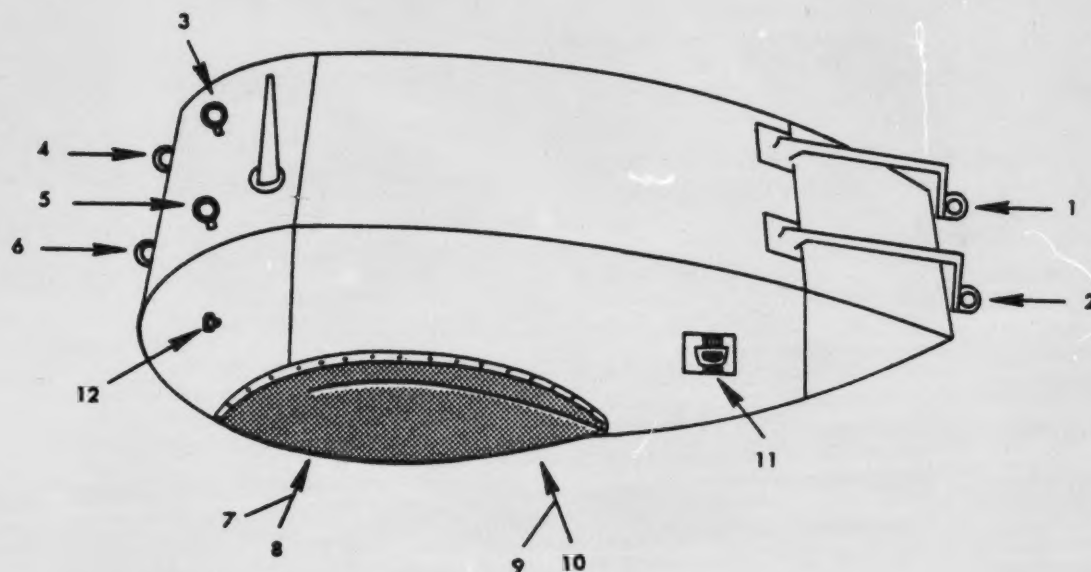

Figure 13. - Hardpoint location numbers.
6. Connect flotation collars to sponson hardpoints in numerical sequence. (See figure 13.)